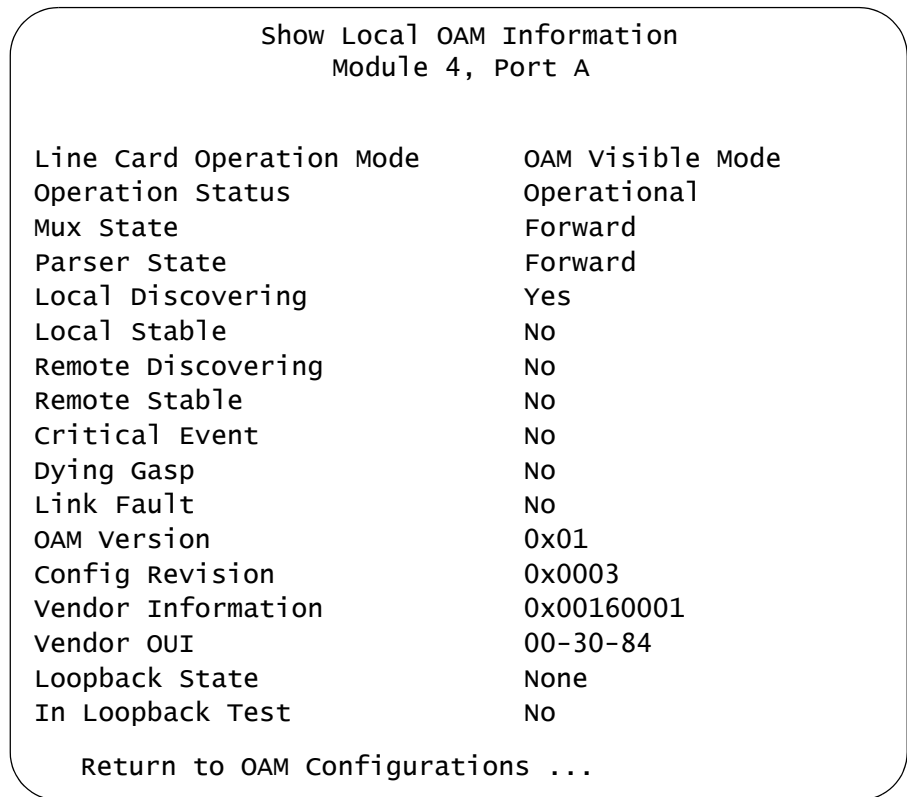

Figure 112. Show Local OAM Information Window
5. From the OAM Configuration Menu, select the **Show Local OAM Information** window to display the Show Local OAM Information Menu, shown in Figure 112 on page 265.